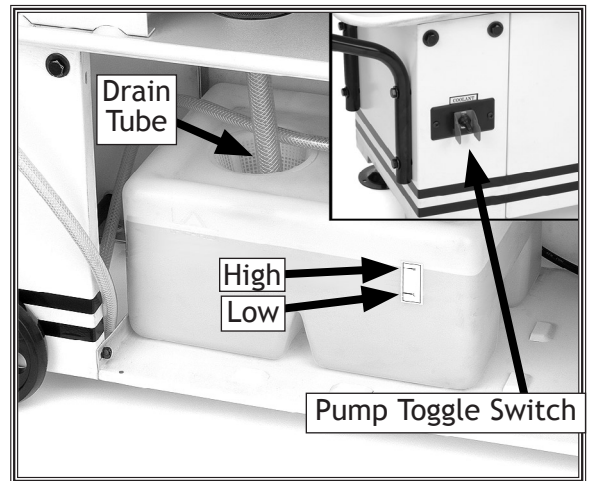

Figure 16. Correctly filled tank ready to be pumped.
3. Make sure the drain tube points toward the reservoir intake screen, and that all tube connections are tight and will not leak (see **Figure 16**).
4. Make sure the waterproof rubber switch boot is installed on the pump ON/OFF toggle switch (**Figure 16**), and that the toggle switch is in the down position.
NOTICE: NEVER operate the pump with the reservoir below the low mark (**Figure 16**), or the pump can be destroyed!